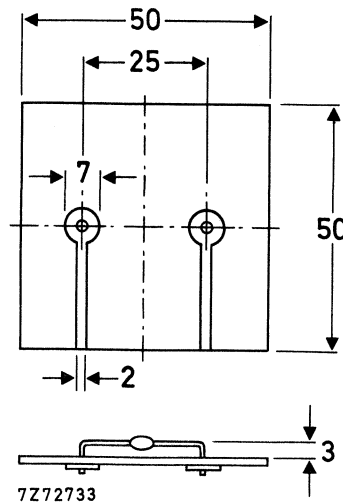

Fig. 2 Device mounted on a printed-circuit board.
2. Thermal resistance from junction to ambient; device mounted on a 1.5 mm thick epoxy-glass pc board; Cu-thickness $\geq 40\text{ }\mu\text{m}$; Fig. 2 (see "Thermal Model")